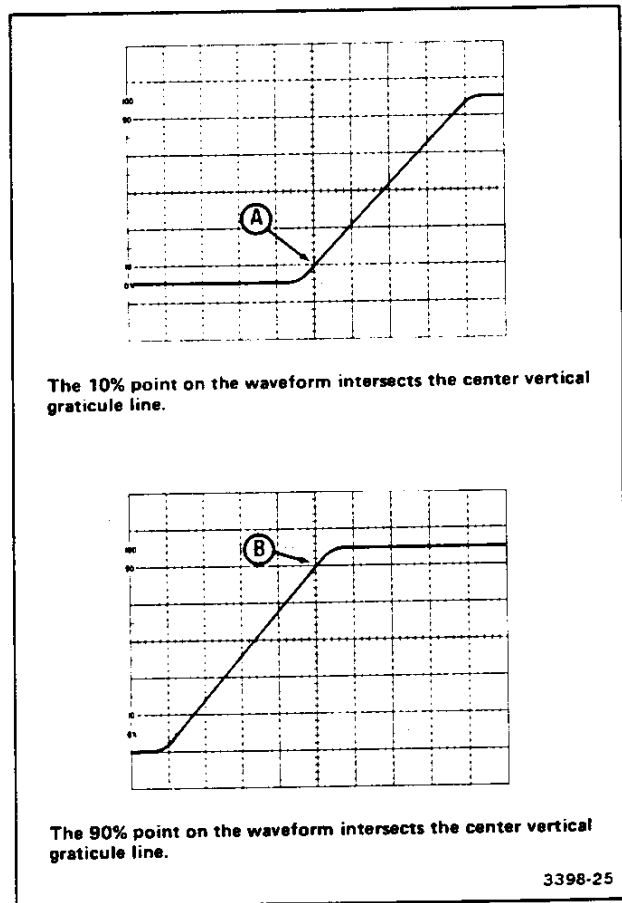

Figure 24. Rise time, differential time method.
3. Vertically position the trace so that the zero reference of the waveform touches the 0% graticule line and the top of the waveform touches the 100% graticule line (see Figure 24).
6. Select the B HORIZONTAL MODE. Adjust the B DELAY TIME POSITION control until the display intersects the 10% point at the center vertical graticule line (see Figure 24, Point A).
8. Adjust the B DELAY TIME POSITION control until the display intersects the 90% point at the center vertical graticule line (see Figure 24, Point B).